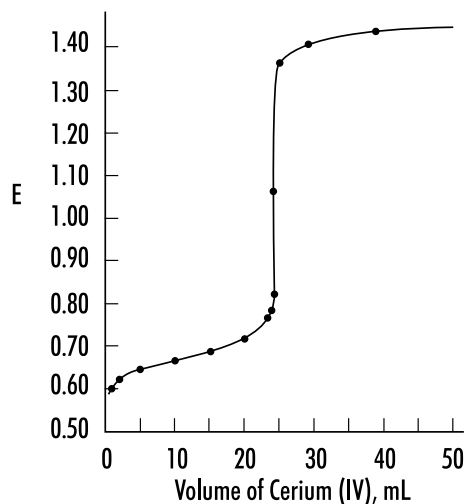

Figure 8: Redox titration
Figure 8 shows an example of a redox titration using Cerium (IV) as a titrant.